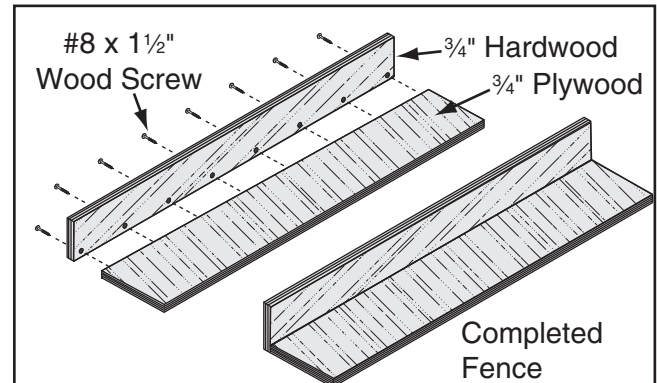

Figure 80. Location of pilot holes.
2. Pre-drill and countersink eight pilot holes $\frac{3}{8}$ " from the bottom of the 3" wide board, then secure the boards together with eight #8 x $1\frac{1}{2}$ " wood screws, as shown in **Figure 80**.